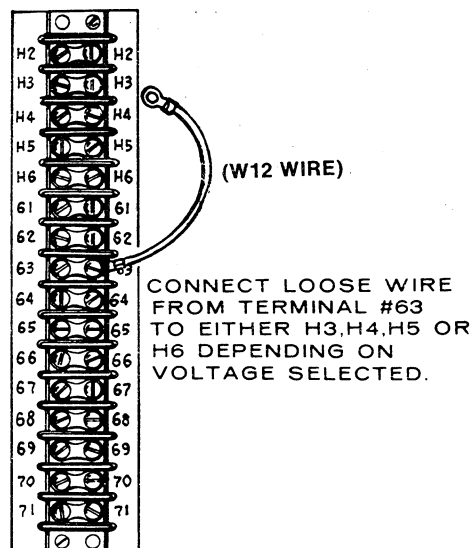
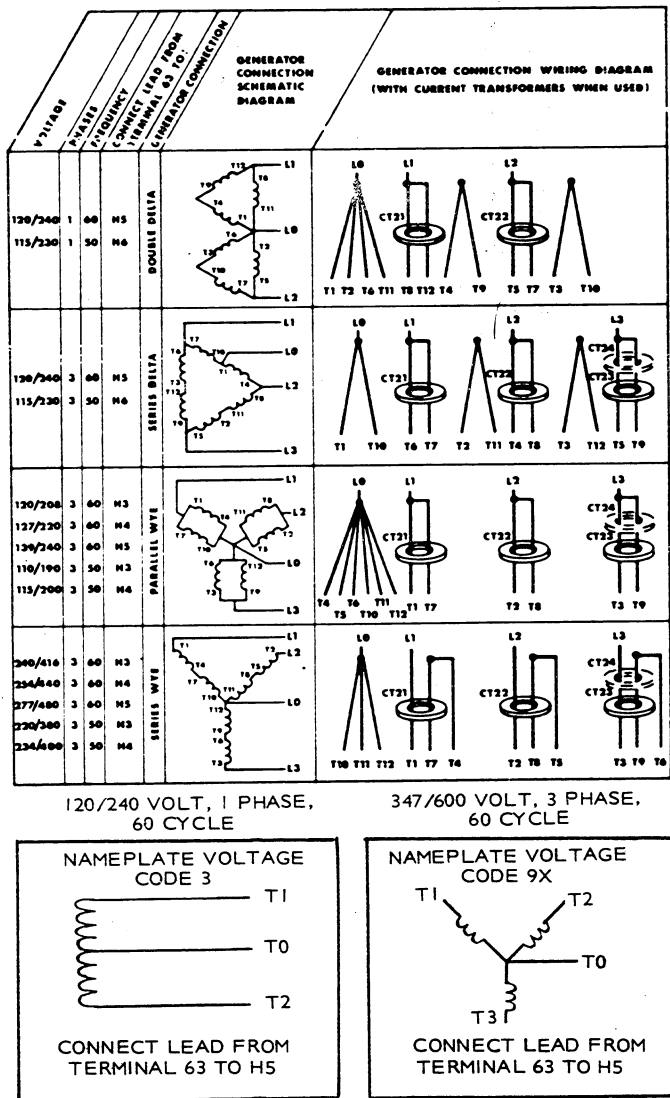
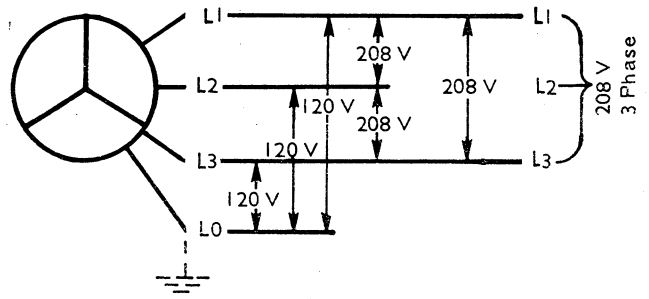

FIGURE 16. TERMINAL 63 CONNECTIONS
FIGURE 18. VOLTAGE CONNECTIONS
FIGURE 21. 3 PHASE, WYE CONNECTION, 12 LEAD
This heater is installed to maintain an elevated engine temperature in lower ambient temperature applications. It heats and circulates engine coolant, and is thermostatically controlled (Figure 16).
Reconnection lead W12 on TB21 is a jumper which connects a single phase output from the generator to the appropriate tap on the voltage reference transformer. This lead is connected at one end to terminal 63 on the terminal board (see Figure 16). The other end will be connected to a terminal marked H3, H4 or H5 depending upon the voltage option required. Refer to Table 1 and Figure 18 for voltages available and correct hookup.
- Connect wires together as shown in Figure 18 according to voltage desired.
3 Phase, 4 Wire, Wye Connected Plant; 12 Lead (Figure 21): The 3 phase, 4 wire plant produces line to neutral voltage and line to line voltage. The line to neutral voltage is the lower voltage as noted on the plant nameplate, and the line to line voltage is the higher nameplate voltage.
Figure 21 shows load connections for 120/208 voltage. Other voltages are available from either parallel wye or series wye illustration in Figure 18.